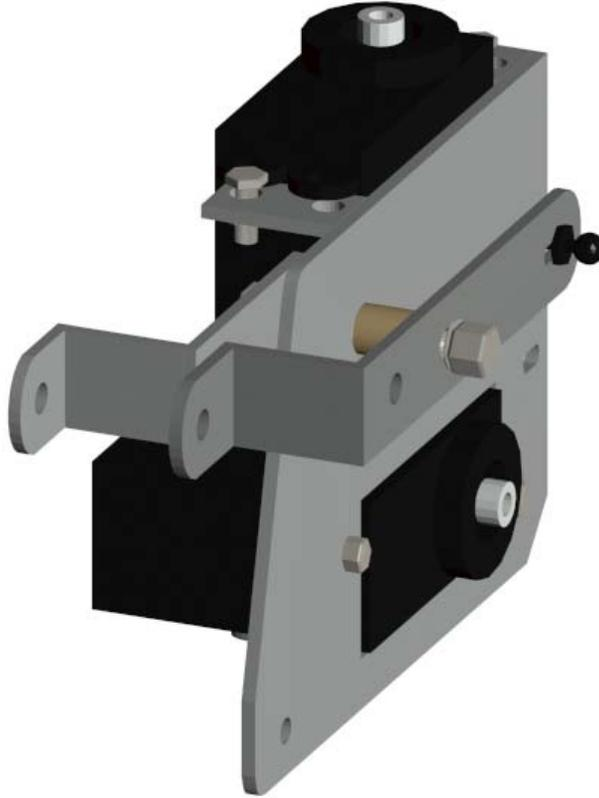

Figure 12: Leg Actuator Assembly
8. At this point in the process, the leg assembly should look like Figures 12 and 13. Note the location and orientation of the holes and ball socket slot. Tighten the screw and lock nut just enough so that the 2 pieces can be easily moved by hand but rigid enough to stand on their own. These screws will be loosened later in the construction process to ensure smooth, friction free leg movement. Do not over-tighten the screws as it makes the rest of the leg assembly difficult to complete.